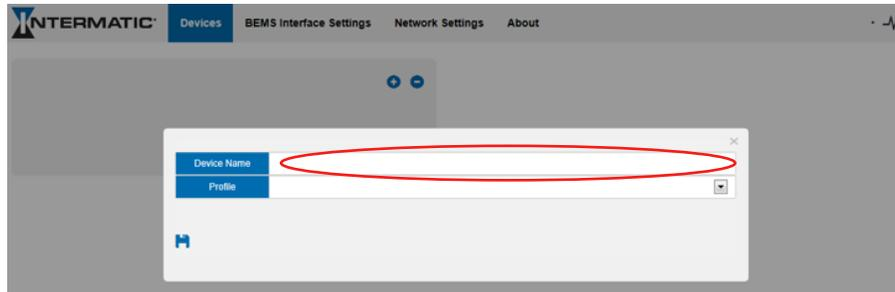

Figure 12: Naming a Device
- Type in a name for the device being added in the Device Name field. Shown in **Figure 12**.